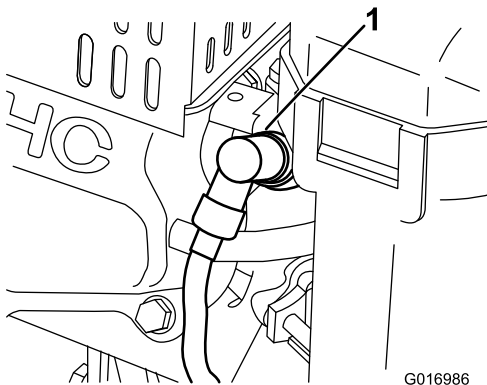

Figure 26
1. Pull the molded wire off the spark plug (Figure 26).